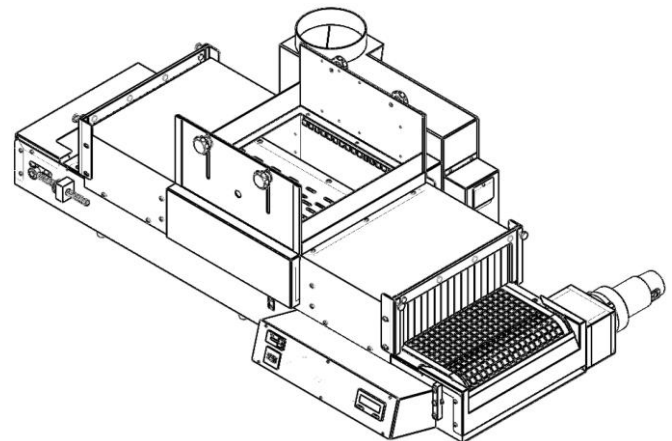

Figure 5. Reinstall the Conveyor Cradle
5. Reinstall the Conveyor Cradle on the Conveyor and secure it by tightening the Hand Knobs (Figure 5).